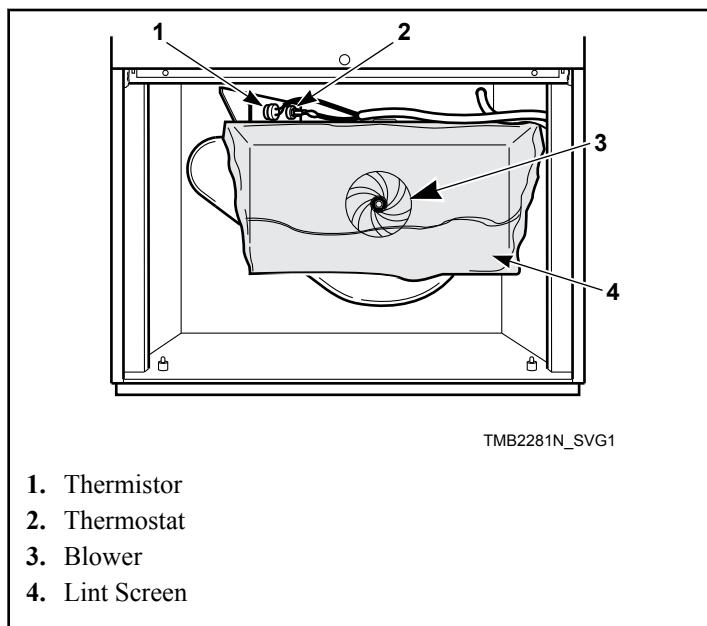

Figure 69
- e. Wipe lint off of the cabinet high limit thermostat and thermistor. Refer to *Figure 69*.